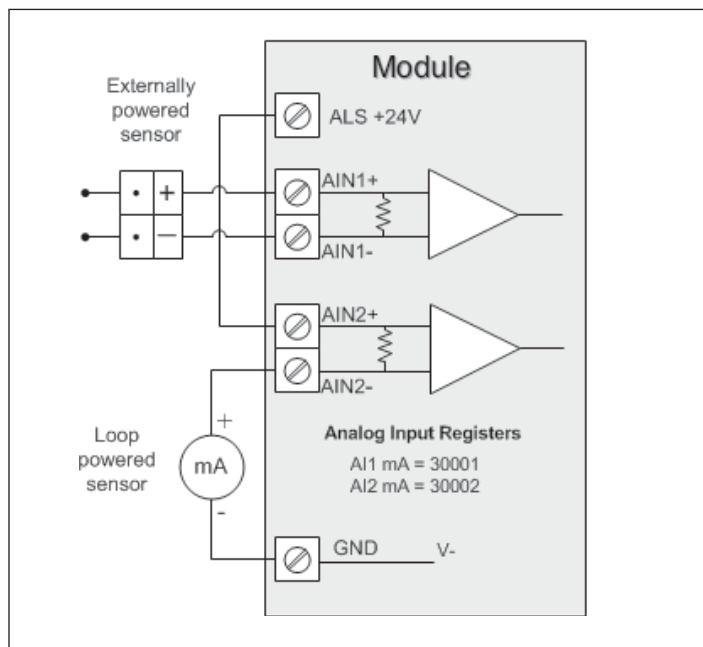
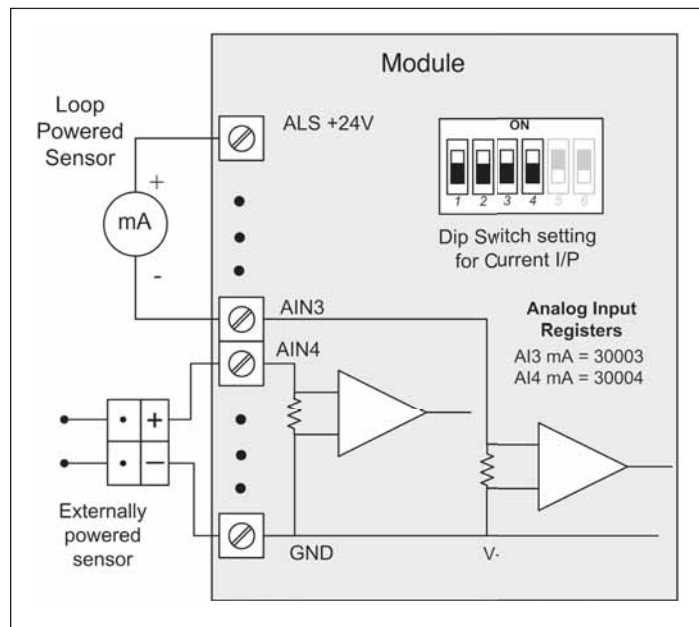

Figure 19. Differential current inputs (AI1 and AI2)
Figure 21. AI3 and AI4 Single-ended current inputs
**Figure 19** indicates how to connect loop-powered or externally powered devices to the 415U-2 differential analog inputs. It should also be noted that the differential inputs can also be used to connect single-ended current sinking or current sourcing devices. **Figure 21** shows how to connect to these types of devices.